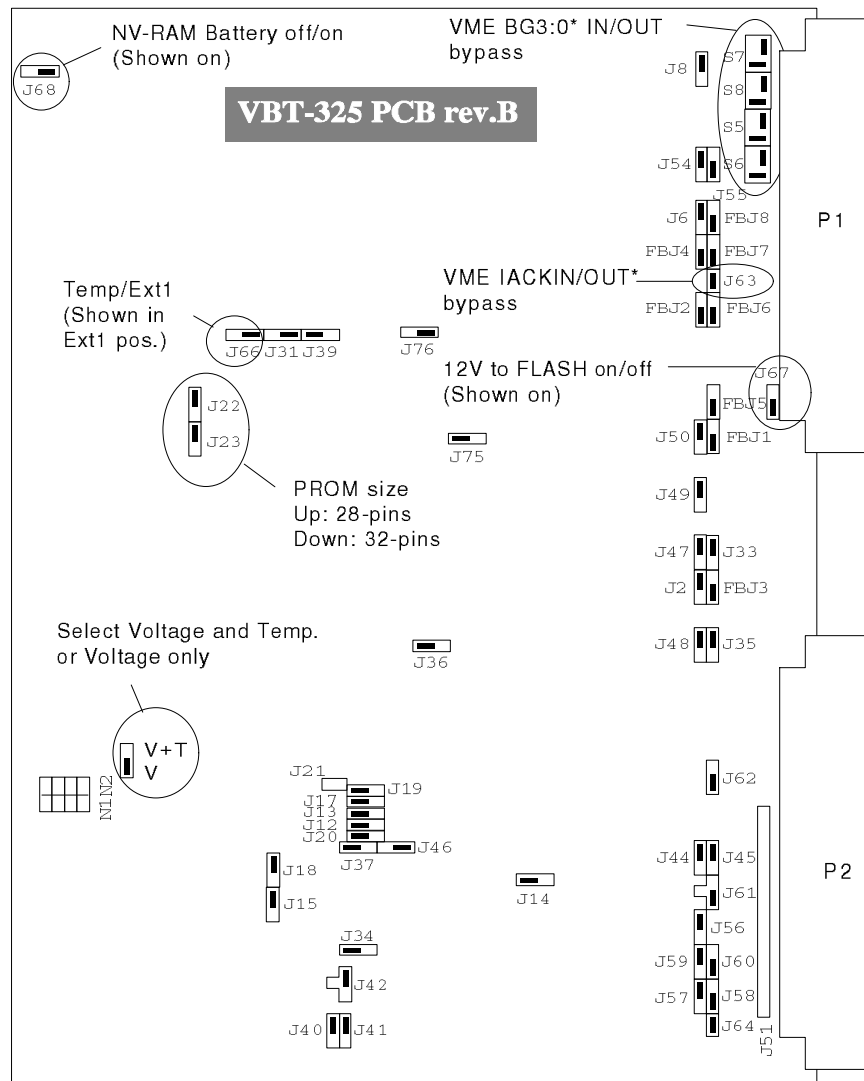

Figure 13.1 Jumper settings, VBT-325 rev. B
- Check if jumper J67 is installed properly. **See Figure 13.1.**